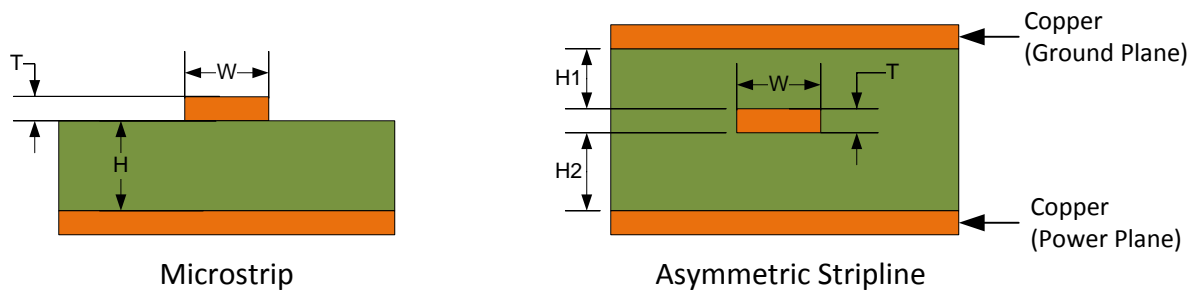

Figure 9. Transmission Line Type
- These internal layers (3 and 4) are considered asymmetric stripline relative to the Ground and Power plane (layers 2 and 5). Refer to Figure 9. The calculations for impedance of traces on these layers are different than layers 1 and 6.
The first step in calculating these single-ended trace properties is to identify the transmission line type of the trace. The Microstrip transmission line type as shown in Figure 9 is most common on two-layer and four-layer boards as well as layers 1 and 6 of six-layer boards. The Asymmetric Stripline transmission line type is most common on layers 3 and 4 of six-layer boards.